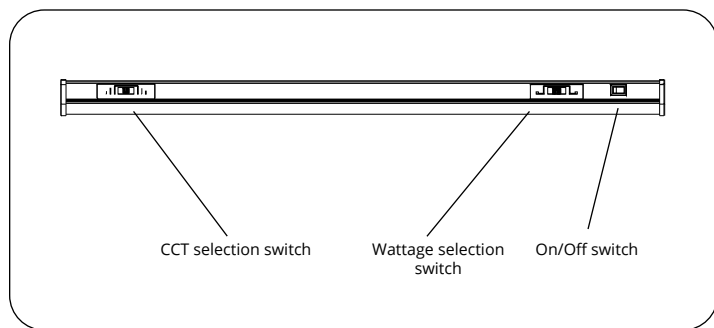

Figure 4
- 4) Set CCT to desired value by adjusting the CCT selection switch located next to the fixture mounted On/Off switch. (Figure 4)